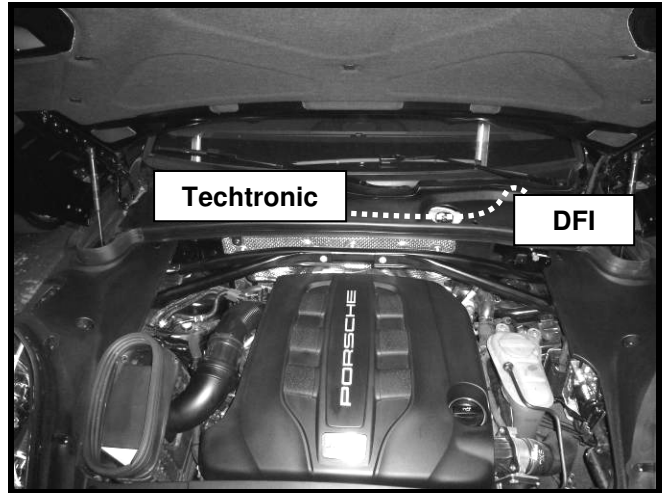

Fig. 04
1. Lay the pin-cable set inside the vehicle (see Fig. 04)